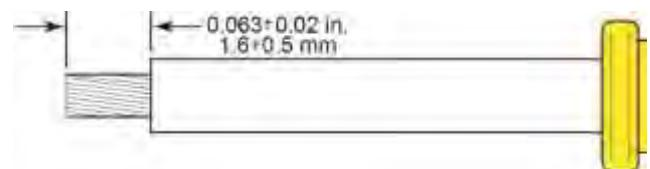
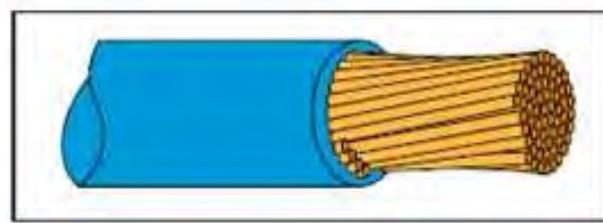

Figure 123
Figure 124
(2) Strip 0.063 ± 0.02 inches (1.6 ± 0.5 mm) of insulation from wire (Figure 123).
(3) Inspect wire strands as follows:
a. Broken, nicked, or cut strands as listed below and shown in Figure 124.